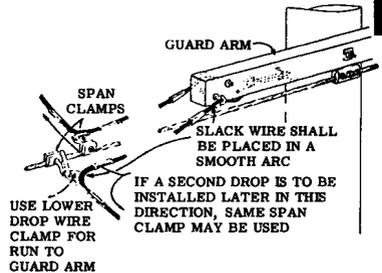

FIGURE 6. Runs From Guard Arms To Span Clamp
3.04 Where drop wires are run from guard arms to span clamps, support the drop wire as shown in Figure 6.